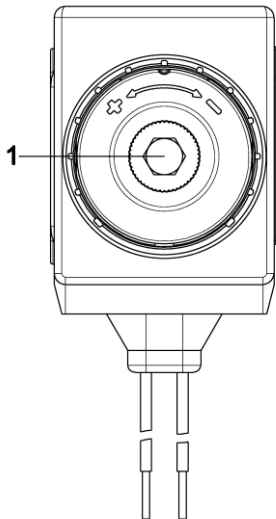

Fig. 9 Adjusting the stroke
The stroke volume, and thus the metering volume of the pumped media, can be adjusted by turning the calibrating screw (see Fig. 9, *item 1*) at the bottom of the pump.